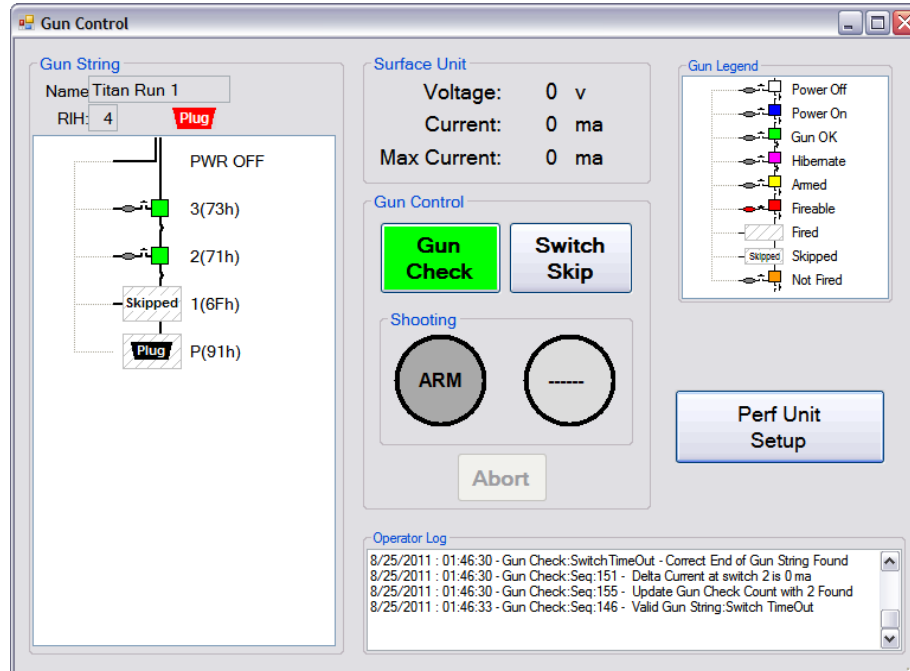

Figure 35
8. Shown in Figure 35 is the result of a successful Gun Check after performing a gun skip on the Plug and Gun 1. The remaining gun string can now be used.